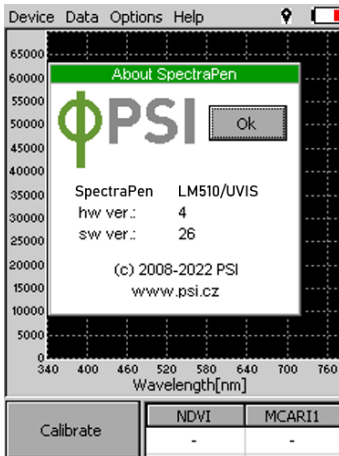

Fig. 13 Information about the device.
- **About...**- information about the device, hardware and software version (Fig. 13).